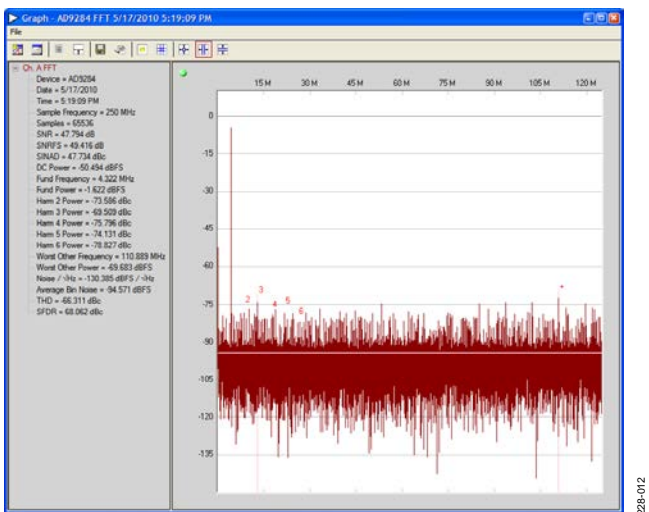

Figure 12. Graph Window of VisualAnalog
- Adjust the amplitude of the input signal so that the fundamental is at the desired level (examine the **Fund Power** reading in the left panel of the **VisualAnalog Graph - AD9284 FFT** window). See Figure 12.